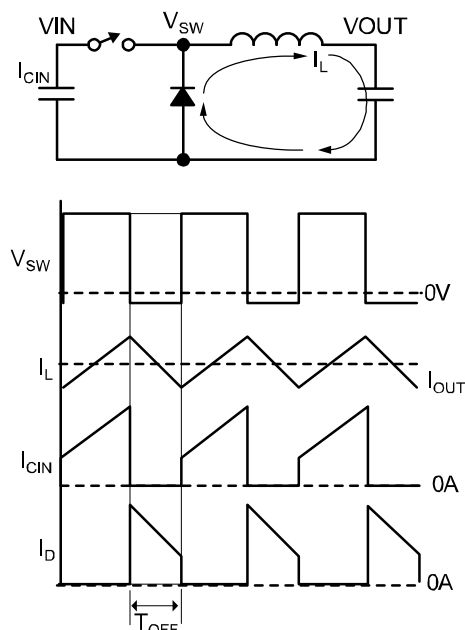

Figure 4. Off-Time
**Figure 4 demonstrates the off-time.** During the off-time, the high-side internal P-channel MOSFET turns off. Since the current in the inductor has to discharge, the current flows through the free-wheeling Schottky diode to the output. In this case, the inductor discharge rate is